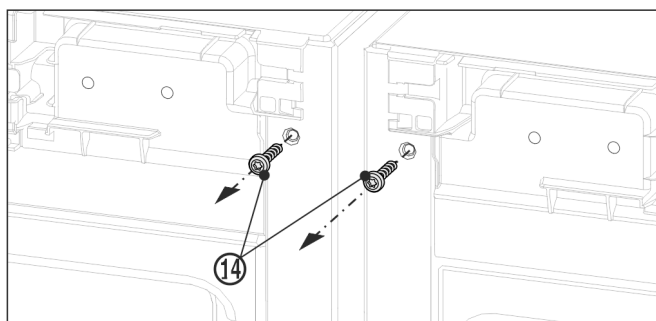

Fig. 12
- ▶ Before fitting the top bracket, unscrew both grounding screws Fig. 12 (14).